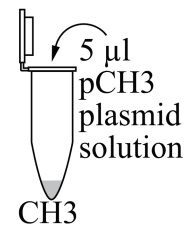

Fig. 16
10. Using a P20 micropipette and a sterile tip, add 5 μ l pCH3 plasmid solution to tube “CH3” (Fig. 16).